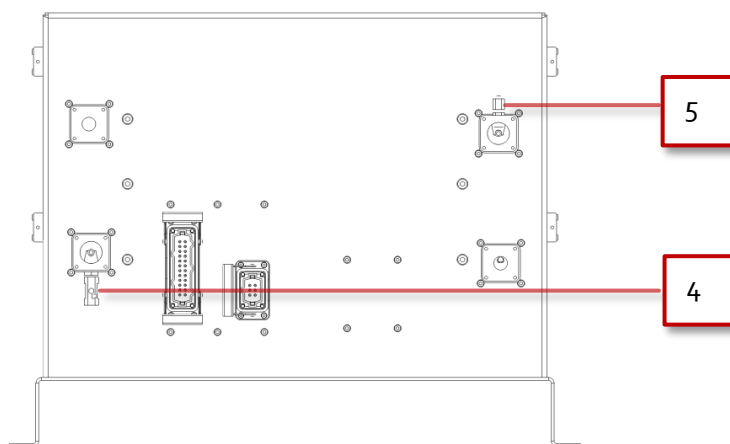

Figure 73 Open drain and bleed valves
4. Place a water container under the drain valve and open the drain valve gently to release the water pressure, see Figure 73.
5. Open the bleed valve at the top of the generator, see Figure 73. The generator contains about 3 liters.